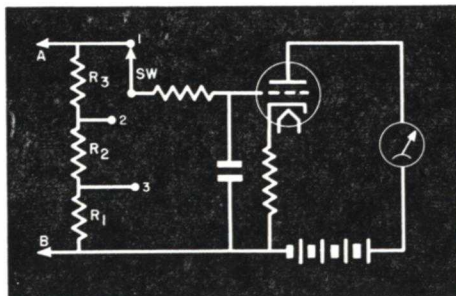

FIG. 5. A voltage divider method of extending the range.
► A better circuit is shown in Fig. 5. When the selector switch is in position 1, resistors R_1 , R_2 and R_3 are all across the grid-cathode of the tube, and all the input voltage is fed into our v.t.v.m. Switch position 1, therefore, sets the meter to its basic range.
► This v.t.v.m. circuit may also be used to measure d.c. voltages. In this use, the condensers have no effect and the resistors determine the voltage division for the instrument's ranges, just as they did in the circuit shown in Fig. 5.